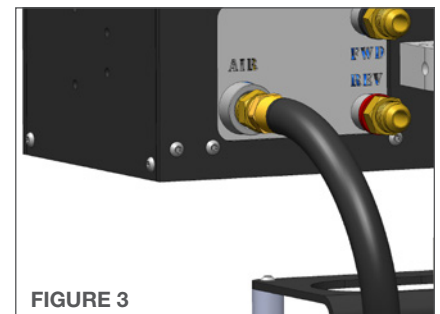

FIGURE 3
3. Connect the air hose from the FRL to the back of the Control Assembly. **(Figure 3)**